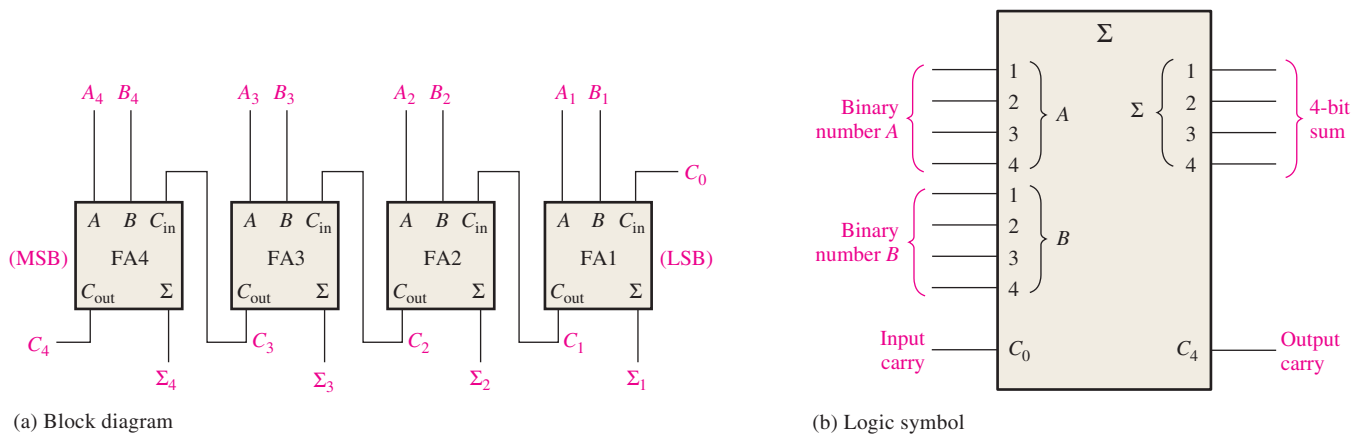

FIGURE 6–9 A 4-bit parallel adder.
To add two binary numbers, a full-adder (FA) is required for each bit in the numbers. So for 2-bit numbers, two adders are needed; for 4-bit numbers, four adders are used; and so on. The carry output of each adder is connected to the carry input of the next higher-order adder, as shown in Figure 6–7 for a 2-bit adder. Notice that either a half-adder can be used for the least significant position or the carry input of a full-adder can be made 0 (grounded) because there is no carry input to the least significant bit position.
In Figure 6–7 the least significant bits (LSB) of the two numbers are represented by A₁ and B₁. The next higher-order bits are represented by A₂ and B₂. The three sum bits are Σ₁, Σ₂, and Σ₃. Notice that the output carry from the left-most full-adder becomes the most significant bit (MSB) in the sum, Σ₃.
Determine the sum generated by the 3-bit parallel adder in Figure 6–8 and show the intermediate carries when the binary numbers 101 and 011 are being added.
The LSBs of the two numbers are added in the right-most full-adder. The sum bits and the intermediate carries are indicated in blue in Figure 6–8.
A group of four bits is called a **nibble**. A basic 4-bit parallel adder is implemented with four full-adder stages as shown in Figure 6–9. Again, the LSBs (A_1 and B_1) in each number being added go into the right-most full-adder; the higher-order bits are applied as shown to the successively higher-order adders, with the MSBs (A_4 and B_4) in each number being applied to the left-most full-adder. The carry output of each adder is connected to the carry input of the next higher-order adder as indicated. These are called *internal carries*.
In keeping with most manufacturers’ data sheets, the input labeled C_0 is the input carry to the least significant bit adder; C_4 , in the case of four bits, is the output carry of the most significant bit adder; and Σ_1 (LSB) through Σ_4 (MSB) are the sum outputs. The logic symbol is shown in Figure 6–9(b).
Fixed-Function Device The 74HC283 and the 74LS283 are 4-bit parallel adders with identical package pin configurations. The logic symbol and package pin configuration are shown in Figure 6–10. Go to *ti.com* for data sheet information.
Programmable Logic Device (PLD) A 4-bit adder can be described using VHDL and implemented in a PLD. First, the data flow approach is used to describe the full adder, which is shown in Figure 6–4(b), for use as a component. (Blue text comments are not part of the program.)